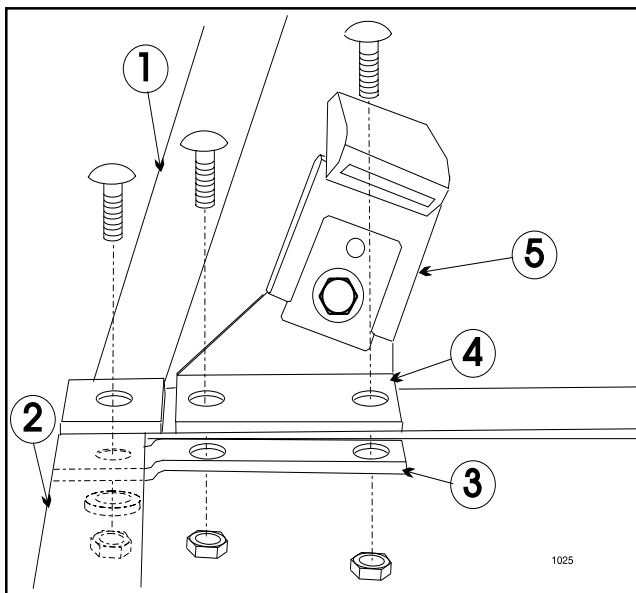

Figure 1
1. Remove rear carriage bolt and nut securing L.H. Hip Restraint to rear of Seat Box Panel and DISCARD BOLT and SAVE NUT and FLAT WASHER for future use. Install Belt Support Strap under Seat Panel and L.H. Outside Belt Support on top of panel. Secure with (2) 5/16" x 3/4" carriage bolts and (2) flange locking nuts. Replace bolt removed earlier with 5/16" x 1" carriage bolt, use existing nut and flat washer, tighten securely. See FIG. 1.
2. Secure Seat Belt Buckle Ass'y to Outside Belt Support with (1) 7/16" x 1 1/4" cap screw and 7/16" flange locking nut. See FIG. 1.